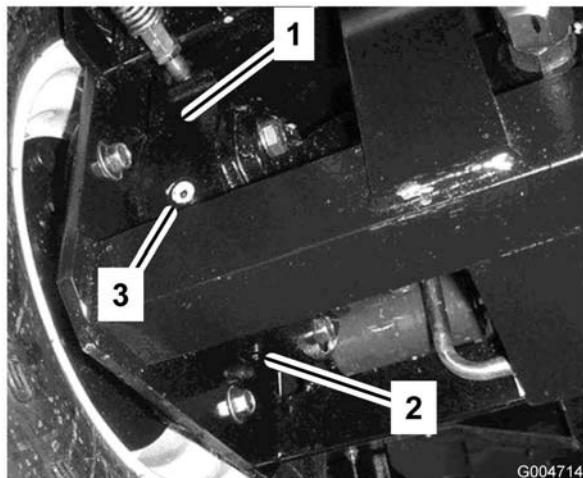

Figure 59
4. Place a drain pan under the brake housing on the other side of the wheel (Figure 59).
7. Remove check plug from brake housing (Figure 59).